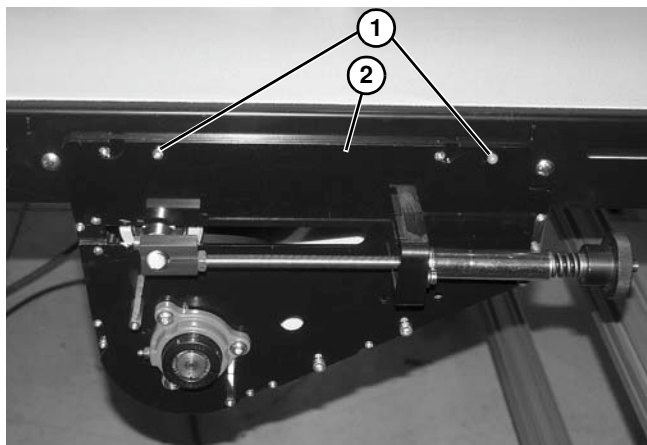

Figure 174
10. Remove screws (Figure 174, item 1) and pull side plate assembly (Figure 174, item 2) off conveyor.